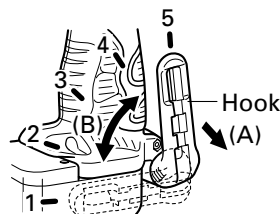

Fig. 5
(1) Operating the hook
- (a) Pull out the hook toward you in the direction of arrow (A) and turn in the direction of arrow (B) (Fig. 5).